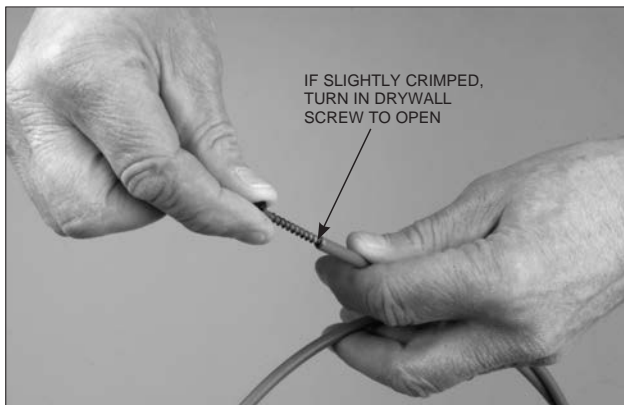

FIGURE 5-52
1. Layout the flexible conduit and secure it in place. **Note:** If inner liner is crimped, turn a drywall screw into the end to open it. See Figure 5-52.